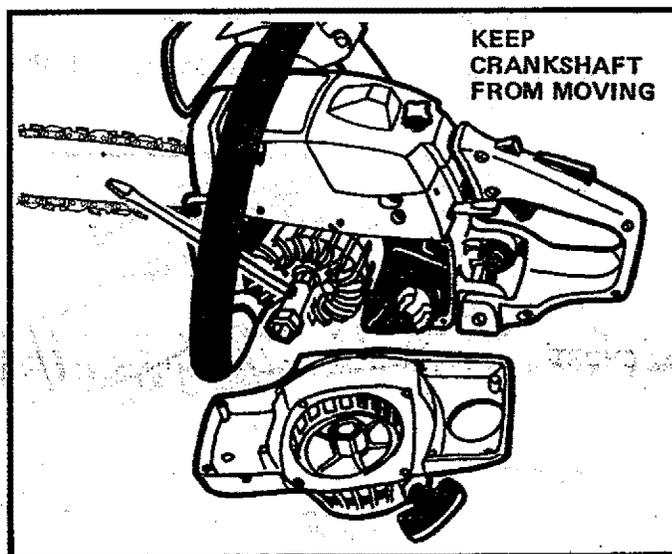

Figure 52
4. Use a 9/16" socket wrench on the flywheel nut to keep the crankshaft from moving. Figure 52.
NOTE: Place the socket handle forward as shown in Figure 52.